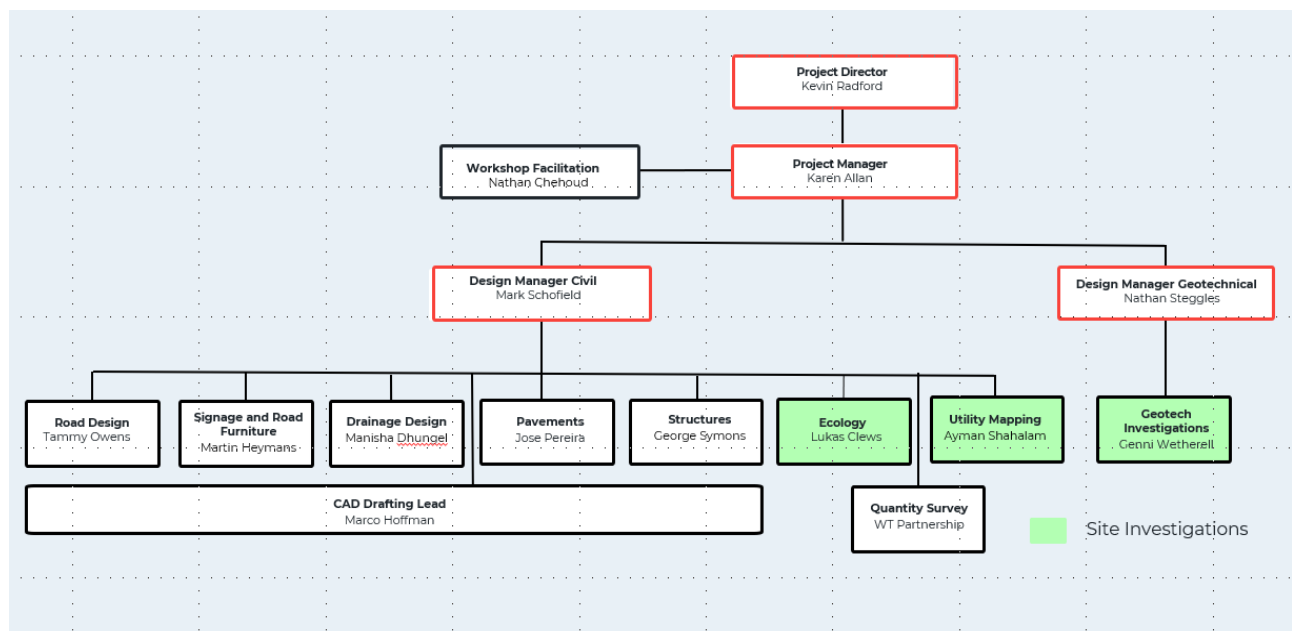

Figure 2: Organisation chart
WSP has adopted a flat project structure to deliver this project as reflected in Figure 2 which covers down to team leader level. The engineering design will be led by the Design Manager (DM) and all key disciplines report to the DM. Each discipline team typically comprises: